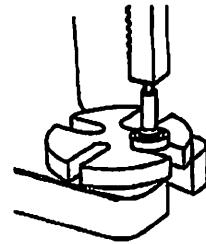

Figure 16
3. Using an arbor press, press the old bearings off the shaft (See Fig. 16). Because the center portion of the shaft has a thicker diameter than the ends, the bearings must be pressed off each end of the shaft.
2. Place assembly into slot of arbor press table, threaded end up (See Figure 16). Press out shaft.